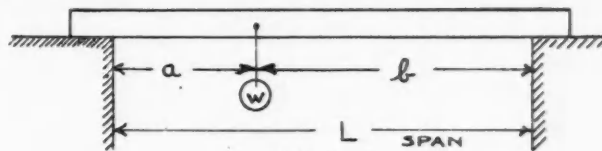
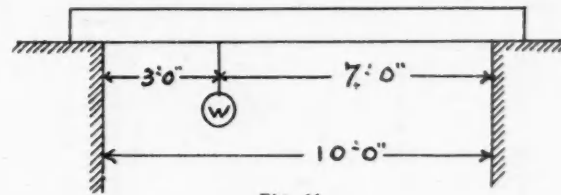
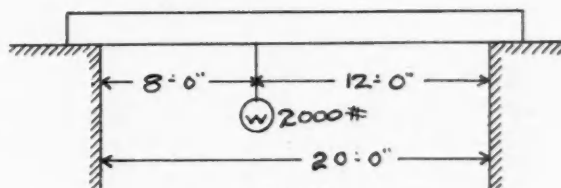

Fig. 9
Fig. 11
Fig. 12
*Case V (Fig. 9).—Beam Supported at Both Ends, with Concentrated Load Not at Center:*
*Solution:* First draw the diagram (see Fig. 11) to see the conditions and referring to Fig. 9 in Case V
*Solution:* Referring to Fig. 9, Case V, we find that "a" equals 8 feet and "b" equals 12 feet, as shown in the diagram, Fig. 12. We will assume a depth of 10 inches and apply the formula given in Case V for breadth in inches. The equation will then be as follows: